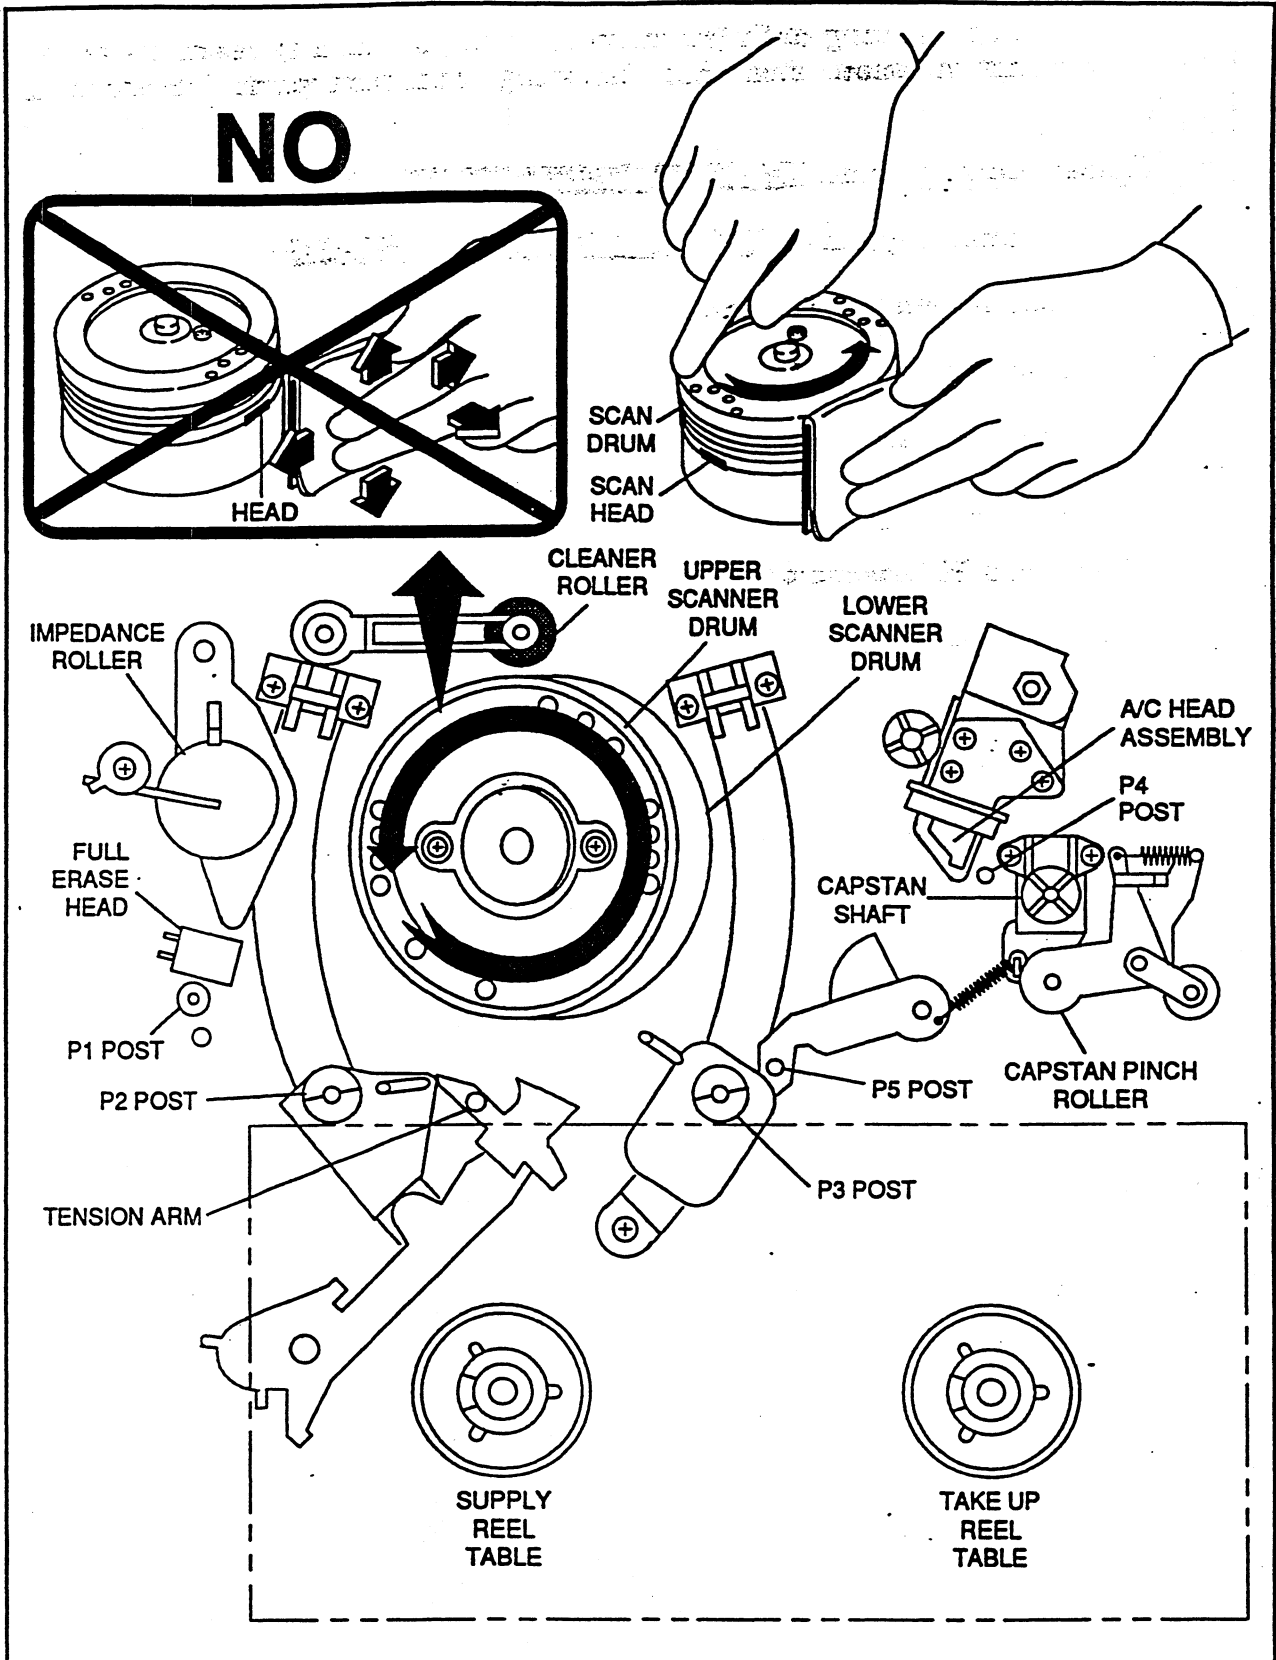

Figure 4. Cleaning Points
The transport assembly is cleaned using the following instructions. Figure 4 illustrates transport cleaning.
3. Saturate a CLEAN UNUSED head cleaning cloth with HEAD CLEANING SOLUTION. Place the head cleaning cloth against the scanner drum as shown in Figure 4. DO NOT place the head cleaning cloth or chamois swab directly on the heads.